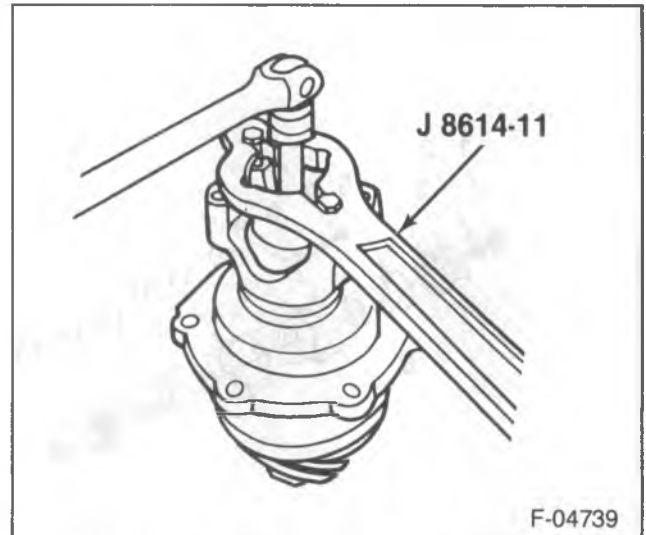

Figure 5—Removing the Drive Pinion Nut
- Pinion assembly cage (10).
- Pinion cage shims (11).
- Pinion flange nut (1) and washer (2) using J 8614-01 to hold the flange (figure 5).